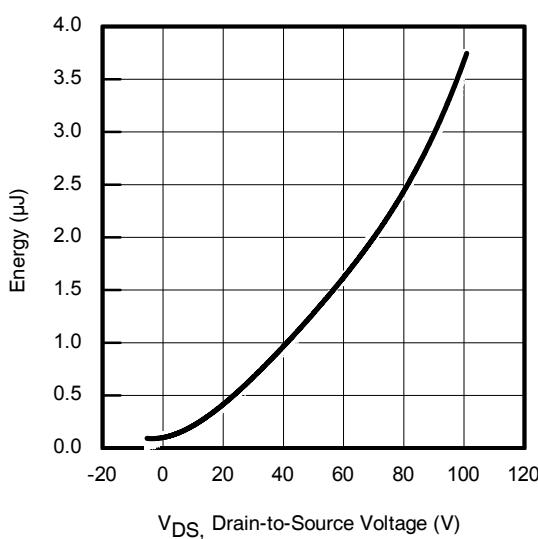

Fig. 11. Typical C_{oss} Stored Energy
- ① Repetitive rating; pulse width limited by max. junction temperature. (See fig. 11)
- ② Limited by $T_{J\text{max}}$, starting $T_J = 25^\circ\text{C}$, $L = 0.077\text{mH}$, $R_G = 50\Omega$, $I_{AS} = 43\text{A}$, $V_{GS} = 10\text{V}$. Part not recommended for use above this value.
- ③ $I_{SD} \leq 43\text{A}$, $di/dt \leq 1600\text{A}/\mu\text{s}$, $V_{DD} \leq V_{(\text{BR})\text{DSS}}$, $T_J \leq 175^\circ\text{C}$.
- ④ Pulse width $\leq 400\mu\text{s}$; duty cycle $\leq 2\%$.
- ⑤ $C_{oss \text{ eff. (TR)}}$ is a fixed capacitance that gives the same charging time as C_{oss} while V_{DS} is rising from 0 to 80% V_{DSS} .
- ⑥ $C_{oss \text{ eff. (ER)}}$ is a fixed capacitance that gives the same energy as C_{oss} while V_{DS} is rising from 0 to 80% V_{DSS} .
- ⑦ When mounted on 1" square PCB (FR-4 or G-10 Material). For recommended footprint and soldering techniques refer to application note #AN-994.
- ⑧ R_θ is measured at T_J approximately 90°C .